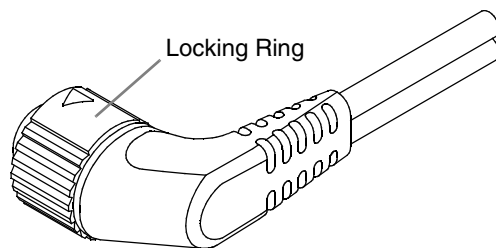

Figure 2-7 Therapy Cable Orientation
- 1 Orient the therapy cable so that the arrow is on top with the cable angled to the right (see Figure 2-7).